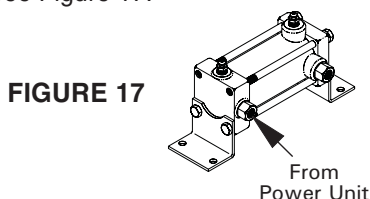

FIGURE 17
4. Determine the shape and length of a new piece of tubing to connect the power unit and single actuator. See Figure 17.